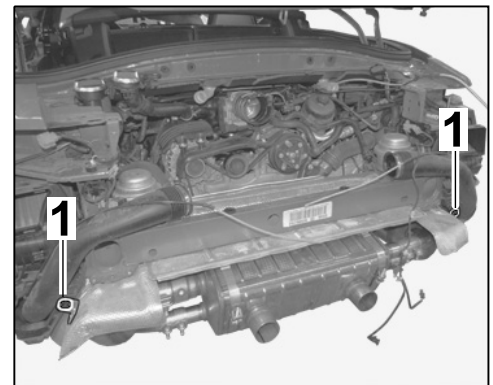

Figure 38
- 8.8.1 Unscrew screws ⇒ *Figure 38 -1-* on the heat shield.